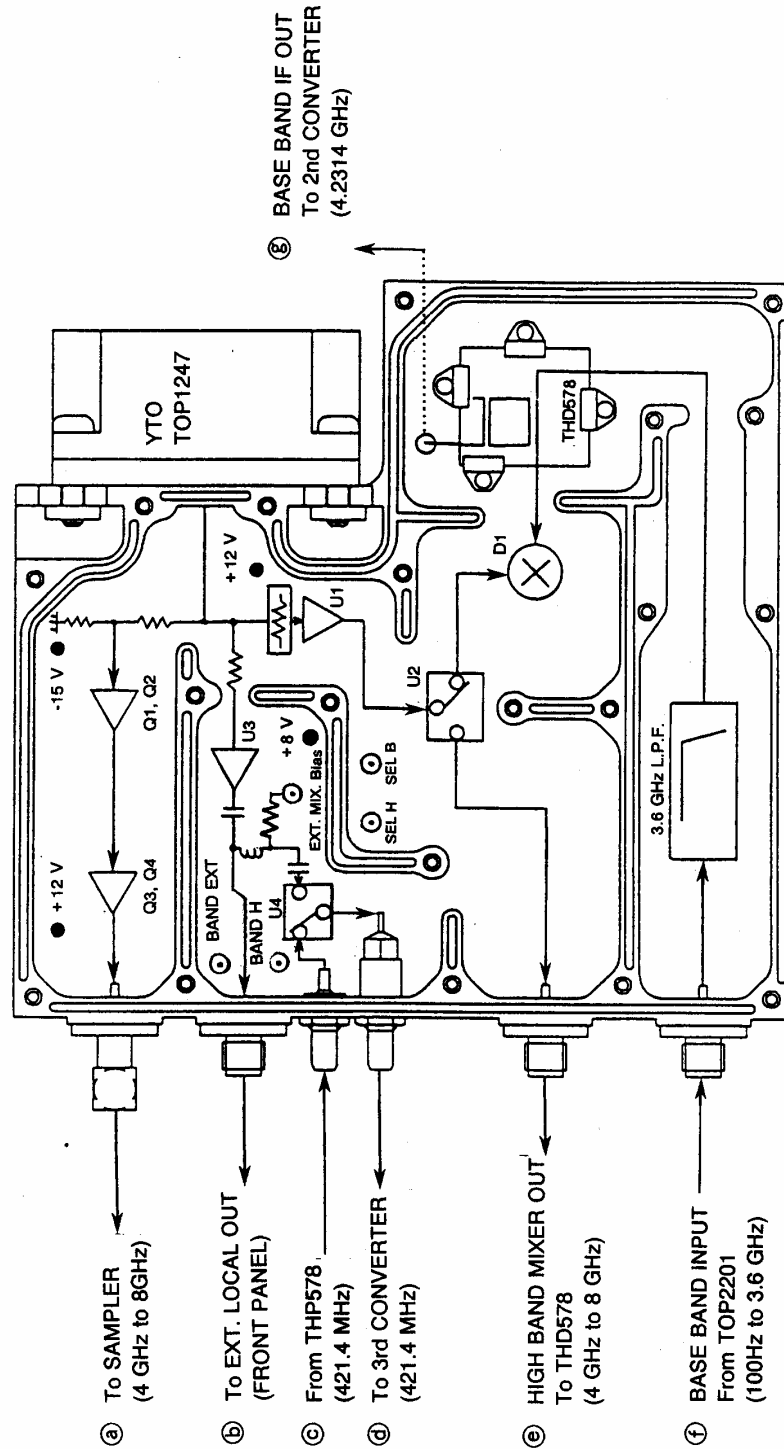

Figure 6-5 1st Converter (BED-021089)
3.5 GHz to 7.5 GHz	THD132 RF (IN) → ④	− 18 dB
7.5 GHz to 15.4 GHz	THD132 RF (IN) → ④	− 24 dB
15.4 GHz to 23.3 GHz	THD132 RF (IN) → ④	− 30 dB
23.3 GHz to 26.5 GHz	THD132 RF (IN) → ④	− 36 dB
*1: For the measurement point, refer to Figure 6-5 and 6-6.
- (3) If every output level for each block is low and the mixer conversion loss is large, it is suspected that the YTO (TOP1247) is faulty.
- (4) If the output level for each block is proper and the mixer conversion loss is large, it is suspected that U1, U2, D1 or D2 of the 1st CONVERTER is faulty.